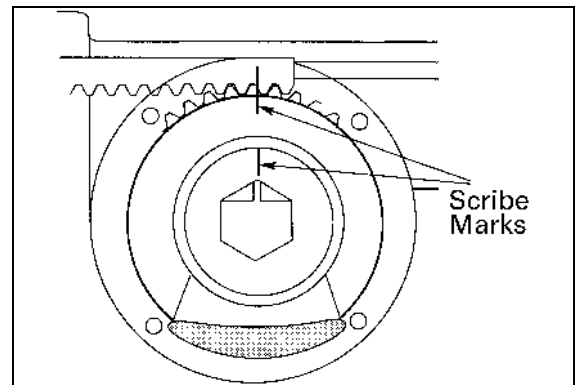

Figure 6 – Scribe Marks
11. Mark the teeth of the rack and gear as shown in Figure 6 and lift the gear sector out of the actuator.